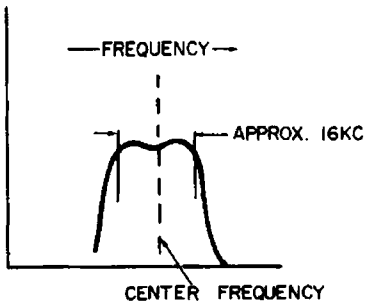
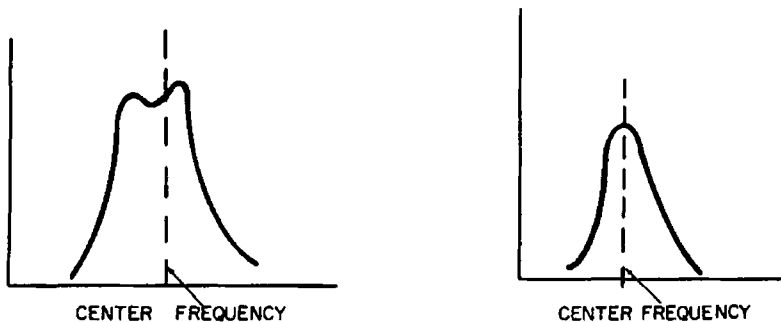

Fig. 9-6. A typical response curve obtained with a broad-band AM receiver.
Fig. 9-7. Two examples of incorrect response curves.
4. First align the secondary and then the primary of the last (output) IF transformer for the best response curve. It should look like Fig. 9-6.
The response curve achieved in high-quality AM receivers and tuners should be similar to the one in Fig. 9-6. Fig. 9-7 shows two examples of incorrect response curves. Rarely do AM receivers have more than two IF stages; but if they do, follow the same procedure as before, repeating the steps outlined for each IF transformer in the same order.